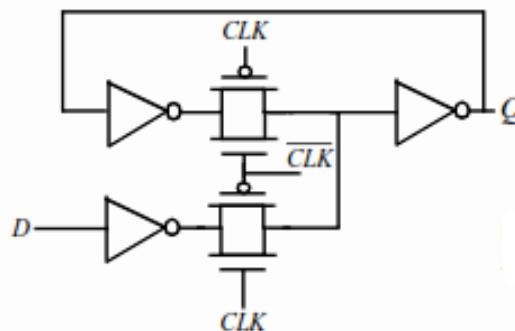

Figure 3.7 Transistor level implementation of a positive latch built using transmission gates.
- A transistor level implementation of a positive latch is shown in Figure 3.7.